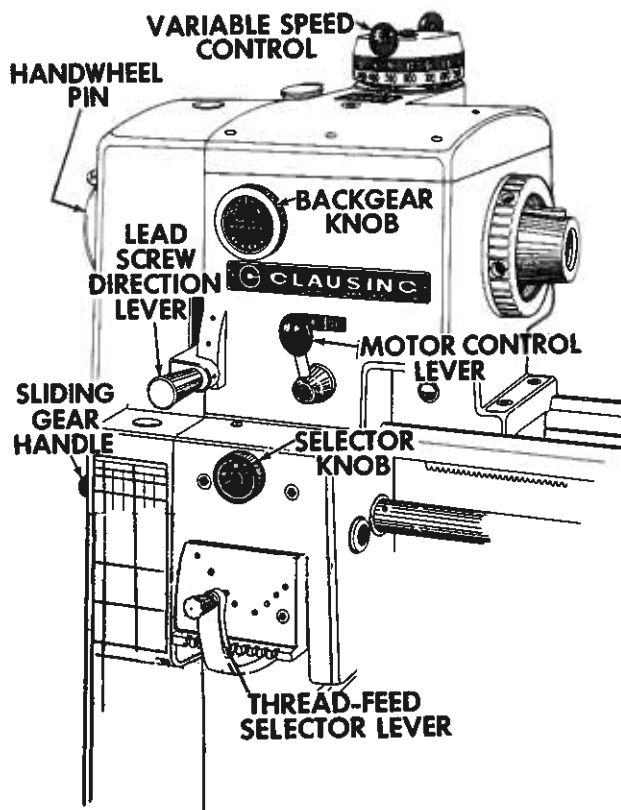

Figure 7
**MOTOR CONTROL LEVER** located on front of headstock controls rotation of lathe spindle. It has three positions -- REVERSE, OFF, and FORWARD -- refer to figure 7.
See figure 7 for the location of the controls described below. Their positions for thread or feed selected are shown on chart.
- A. Move thread-feed selector handle to the number position indicated on chart -- refer to figure 7.